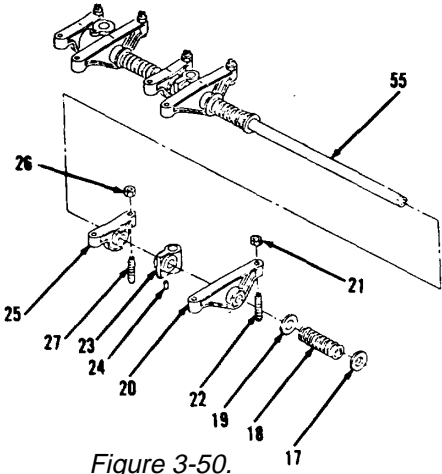
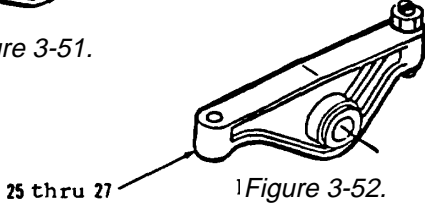

Figure 3-50.
Figure 3-52.
- 12. Remove washer (17), spring (18) and washer (19, Figure 3-50).
- 14. Remove lock nut (21) and screw (22) from arm (20, Figure 3-50).
- 15. Remove bracket (23) from shaft (55).
- 16. Remove dowel (24) from bracket (23).
- 17. Remove items 25 thru 27 as an assembly (Figure 3-52).
- 18. Remove lock nut (26) and screw (27) from arm (25, Figure 3-50).